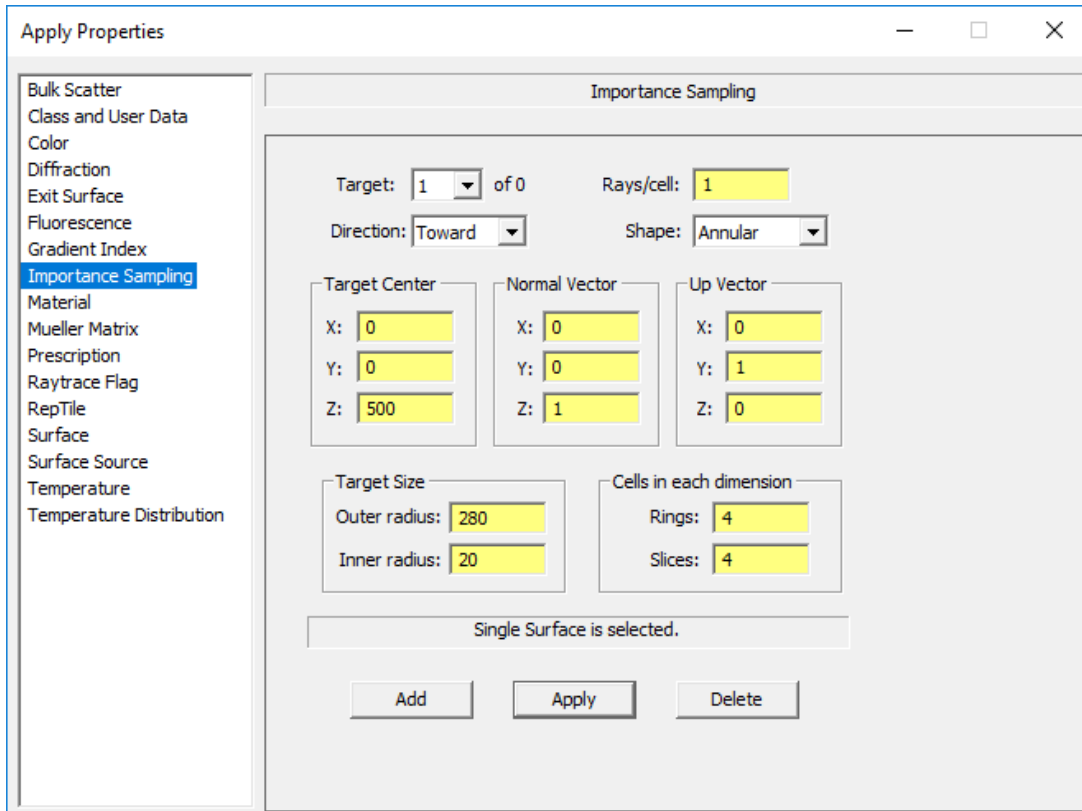

FIGURE 9.56 - Applying an importance sampling target to the Exit Surface.
In order to make reverse ray tracing work, you must define importance-sampling targets for creating the reverse rays. The rays will be assigned an étendue value equal as described in the section “Theory of reverse ray tracing” on page 5.37, with solid angle determined by the importance-sampling target. Without one or more targets, the étendue cannot be calculated in a meaningful way. The target(s) are assigned to each exit surface from which reverse rays will be traced. In this example, we will use one importance sampling target and apply it to the **Observation disk:Front** surface. Select this surface and open the **Apply Properties** dialog box as in the previous section, but now select the **Importance Sampling** tab. We will create an annular importance sampling target at the front of the reflector, which is located at $z = 500$, with outer radius = 280 and inner radius = 20. We will also create cells on the importance-sampling target by dividing it into radial and azimuthal segments in a 4x4 pattern. Fill in the values shown in Figure 9.56 and click *Apply* to create the target. With these segments, for every reverse ray specified, $4 \times 4 = 16$ rays will be generated. Because we specified 1000 reverse rays, 16,000 actual rays will be generated.
5. Defining an importance sampling target on the Front surface as in Figure 9.56 on page 9.54, except set the number of rings to 1 and the number of slices to 1.